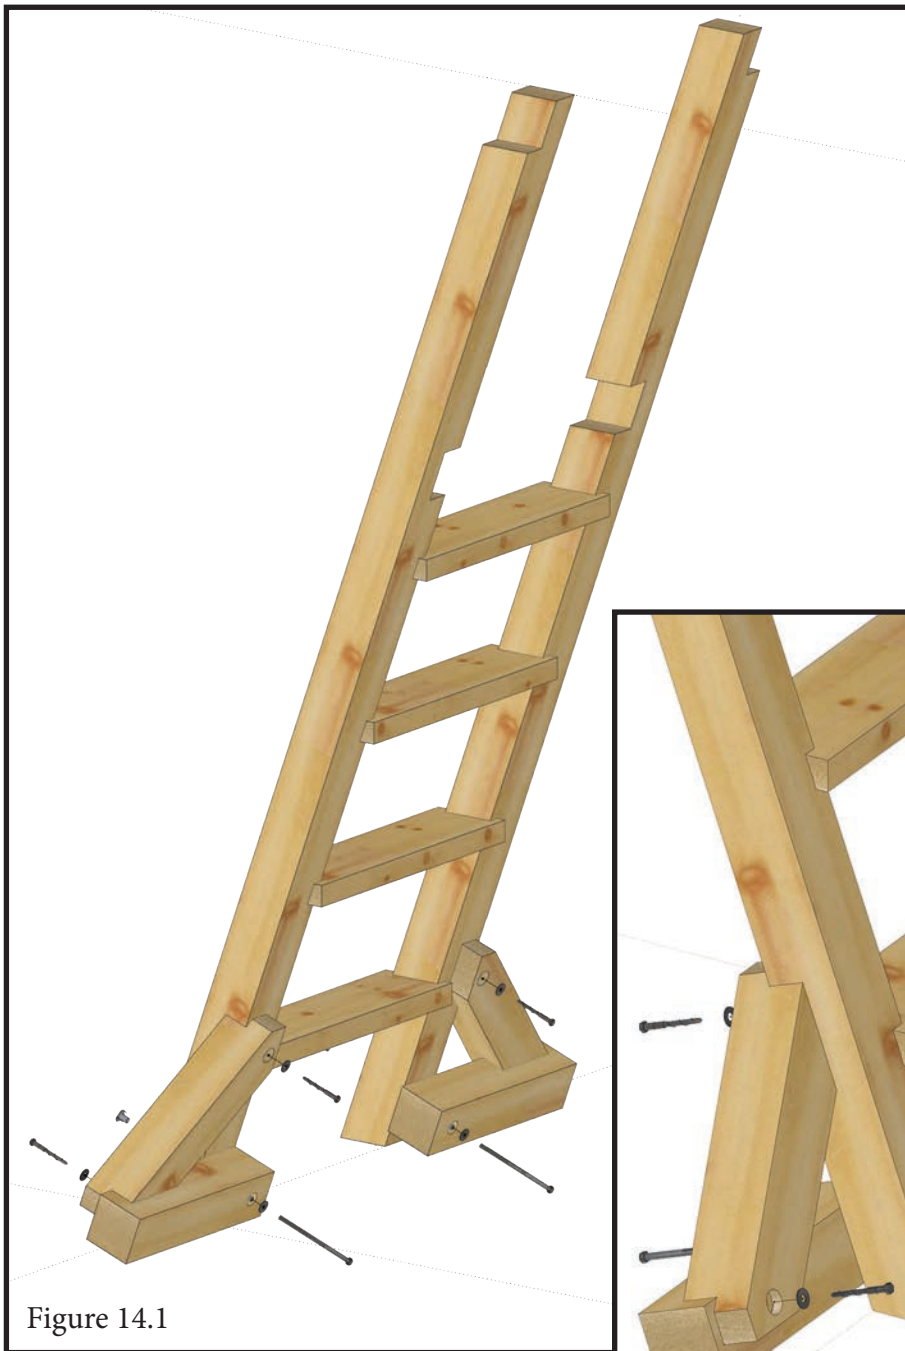

Figure 14.1
14.1 Fasten Bottom Runners to GW Ladder Runners with 5/16 x 6 Hex Bolts and 5/16 washer into T-Nuts as shown in Figure 14.1.